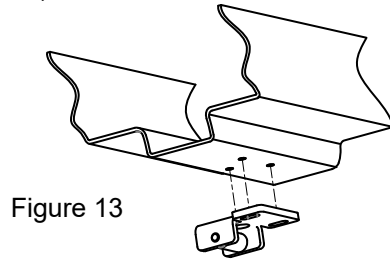
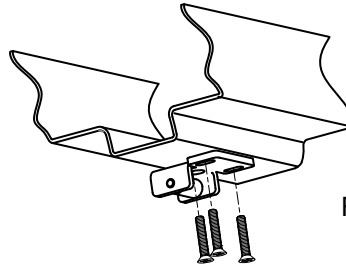

Figure 13
Figure 14
7. Mark mounting holes for top strike on jamb with Strike Template (See Figure 13.), then fasten using supplied screws. (See Figure 14)